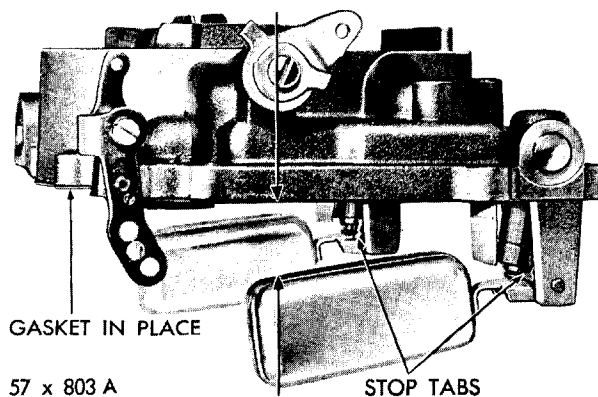

Fig. 12—Checking Float Drop
(1) Holding the air horn in an upright position, measure the distance from the top of the floats (outer end) to the air horn gasket, as shown in Figure 12. This measurement should be $\frac{3}{4}$ inch. If an adjustment is necessary, bend the stop tabs on the float levers until the correct drop setting has been obtained. Bend the tab towards the needle seat to lessen the drop, or away from the seat to increase the drop.
(2) After the floats have been checked and adjusted, continue to assemble the carburetor as follows:
(3) Place the accelerator pump plunger lower spring in the pump cylinder, then lower the air horn carefully down on the main body.